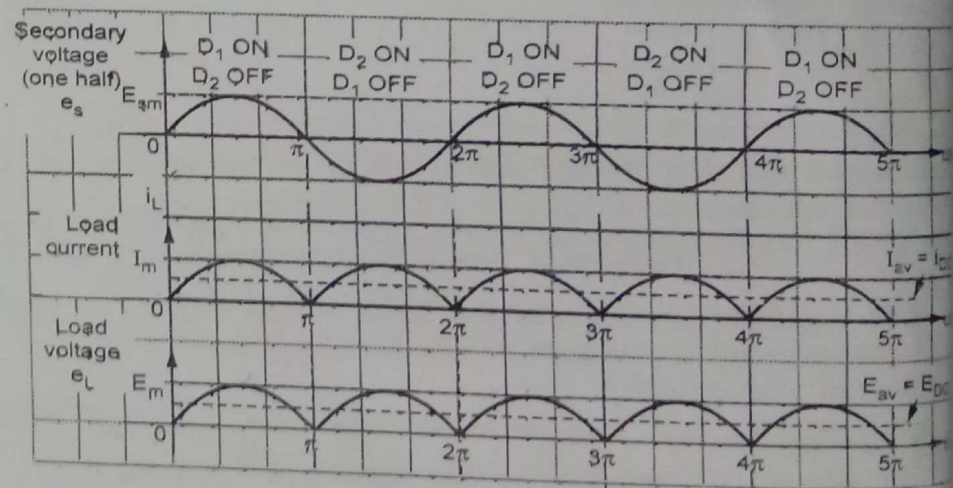

Fig. Q.23.2 Load current and voltage waveforms for full wave rectifier
- Consider the positive half cycle of ac input voltage in which terminal (A) is positive and terminal (B) is negative due to center tap transformer.
- In the next half cycle of ac voltage, polarity reverses and terminal (A) becomes negative and (B) positive. The diode D_2 conducts being forward biased, while D_1 does not, being reverse biased. The diode D_2 supplies the load current, i.e. $i_L = i_{d2}$.
- The waveforms of secondary voltage (one half), load current and load voltage are shown in the Fig. Q.23.2.